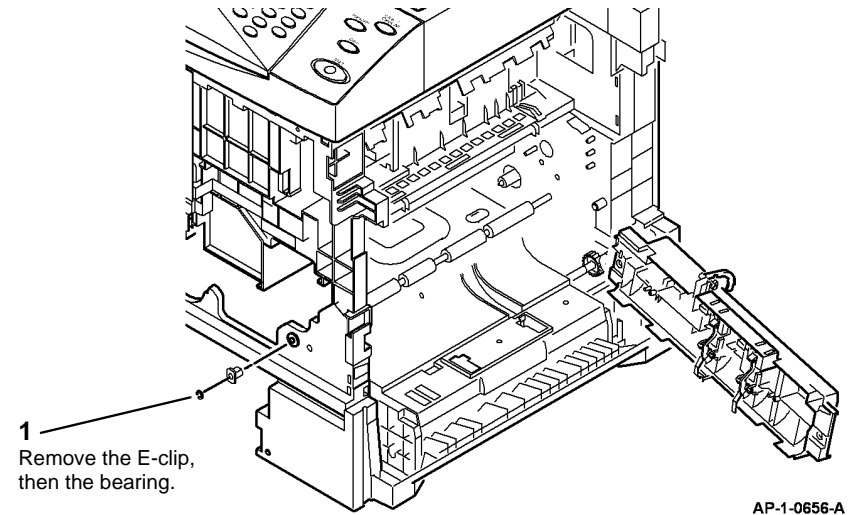

Figure 8 Front Bearing Removal
17. Remove the front registration idler roll bearing, Figure 8.